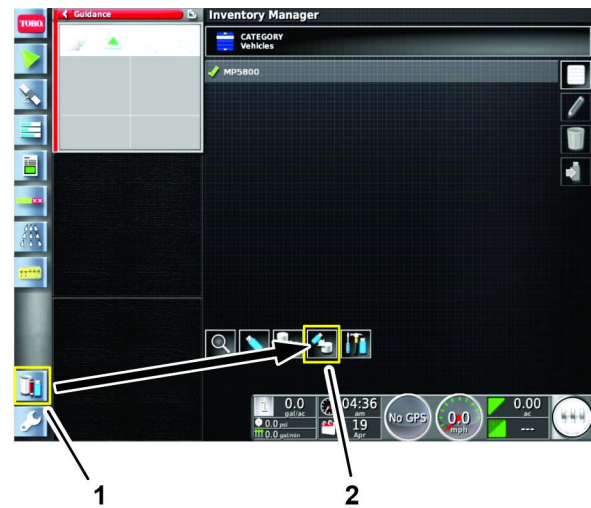

Figure 16
3. At the bottom of the screen, press the IMPORT DATA icon (Figure 16).
2. Press the INVENTORY MANAGER icon (Figure 16).